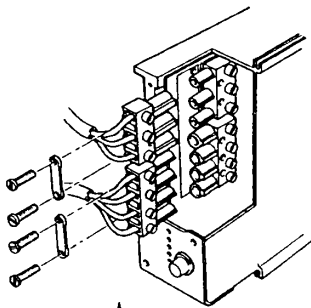

Fig. 76
8. Clamp the cable in the grip provided. Ensure that the length of the supply cable is such that the current carrying wires become taut before the earth wires if the cable should pull out of the cable clamp (Fig. 76).